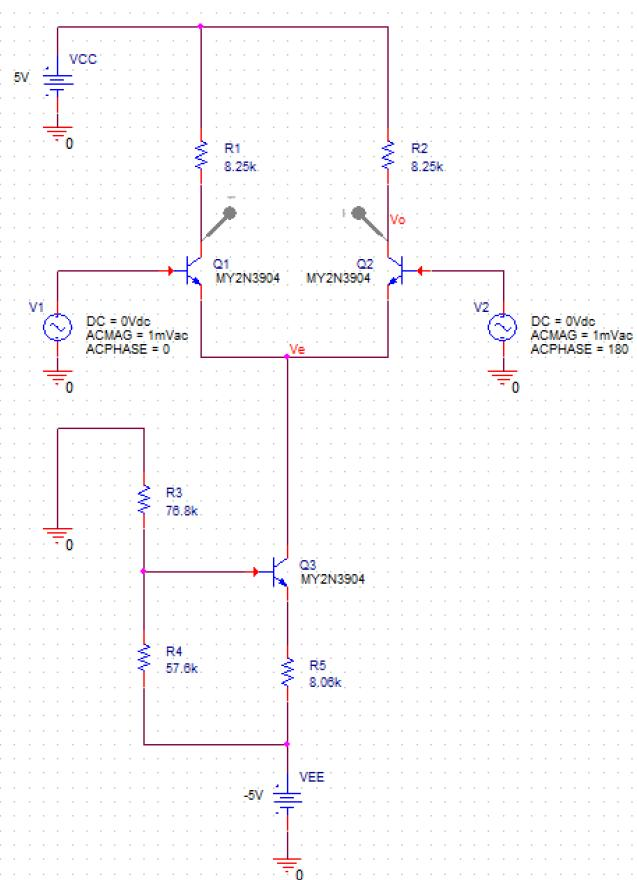

Fig. 5 Schematic diagram of the differential amplifier for differential-mode analysis
- 3.1 We want to analyze its characteristics for the DC differential-mode signal V_{DM} , followed by the AC differential-mode signal v_d . Here, the voltage sources V_1 and V_2 in Fig. 5 provide both DC and AC voltages to the inputs of the differential amplifier. Set the DC values of V_1 and $V_2 = 0$ V.
- 3.3 **Frequency Response:** Set the AC magnitudes of V_1 and V_2 to 1 mV. For the differential-mode signal, set the phases of the AC signal V_1 and V_2 to be 0° and 180° , respectively, as shown in Fig. 5. In this setting, the differential-mode signal $v_{id} = V_1 - V_2 = 1 \text{ mV} - (-1 \text{ mV}) = 2 \text{ mV}$. Conduct AC sweep for V_o in Logarithmic with Start Frequency = 100 Hz, End Frequency = 10 MegHz, and Points/Decade = 101. In the simulator window, click the Add Trace icon , choose Plot Window Templates under Functions or Macros, select Bode Plot – dual Y axes(1), select V(Vo) in Simulation Output Variables, and press OK. Record the magnitude and phase of V_o in the sheet “Step 3.3 of the Excel file “Lab 2 – Single-Stage Amplifier.xlsx”.
- 3.4 Based on Fig. 5, construct the measurement setup for the differential amplifier. Use $V_+ = 5V$ for V_{CC} , $V_- = -5V$ for V_{EE} , Wavegen 1 (W1) for V_1 and Wavegen 2 (W2) for V_2 . Connect GNDV+, GNDV-, GNDW1, and GNDW2 to a common ground line.